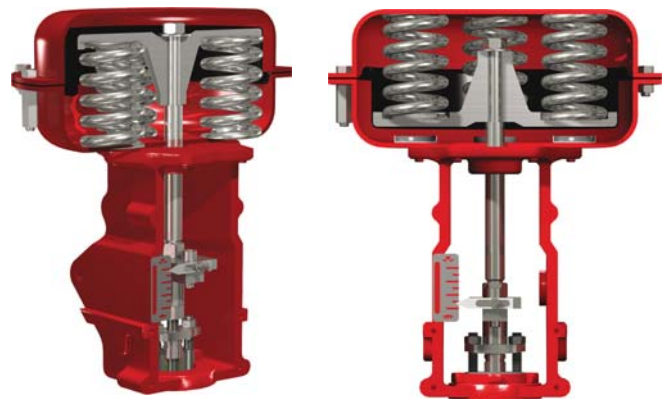

Figure PA9: Pneumatic Diaphragm Actuators, Air Fail Open to LH side, Air Fail Closed to RH side (Dresser)
• **Diaphragm actuators** - Another form of linear motion pneumatic actuator is the diaphragm actuator (see Figure PA9). It comprises a rubber diaphragm and stem contained in a circular pressed steel housing. They are usually single acting with air being supplied to one side of the diaphragm and springs providing the return energy. The nature of the flexible diaphragm means that travel is relatively restricted compared to that of the cylinder actuator. They are ideally suited to the shorter maximum travels of diaphragm and globe valves and they can also be used on small gate valves.